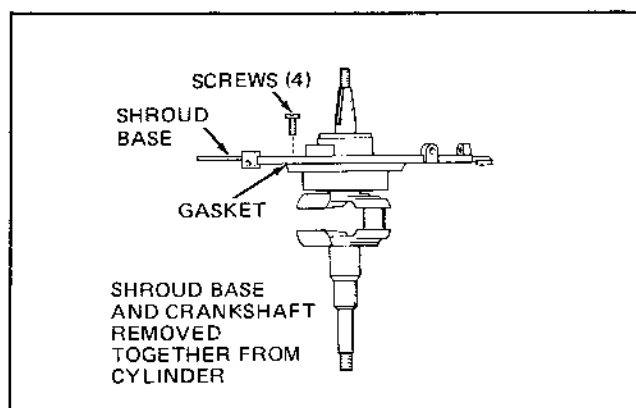

Figure 2-5B
2. Remove four (4) shroud base screws and tap shroud base so base and crankshaft can be removed together. Figure 2-5B.